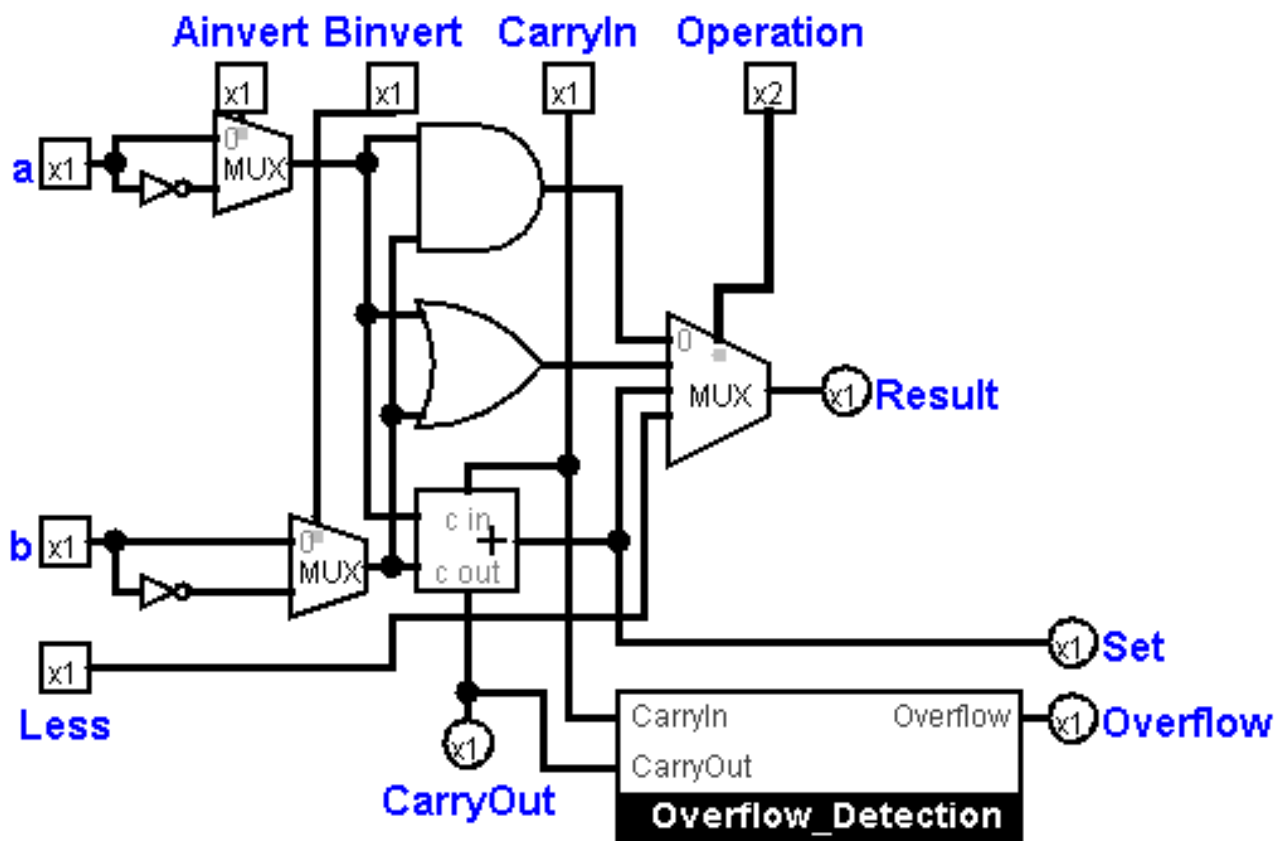

Figure 3: 1-bit ALU handling slt ( **Set**, **Overflow** circuitry only appear in most significant ALU)
- to implement the `slt` or set-on-less-than instruction as in Figure 3: